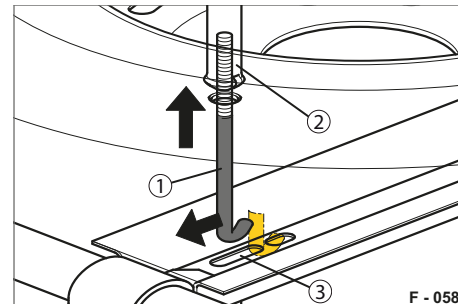

Fig. 77 Unscrewing the hook bolt
- ▶ Lower the hook bolt (Fig. 77/1).
- ▶ Lead the hook bolt to the rear end of the elongated hole (Fig. 77/3).
- ▶ Lead the hook bolt to the front end of the elongated hole (Fig. 77/3).